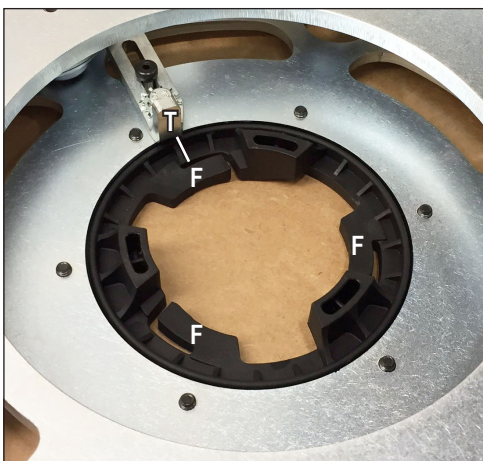

FIG. 4
4. Orient the nylon clutch (P/N 403978) so that any one of the (3) clutch fingers (F) lines up with the locking tab (T). See Figure 4.
5. Tighten the (6) screws to 25 ft.lbs. using a 4mm Allen wrench.